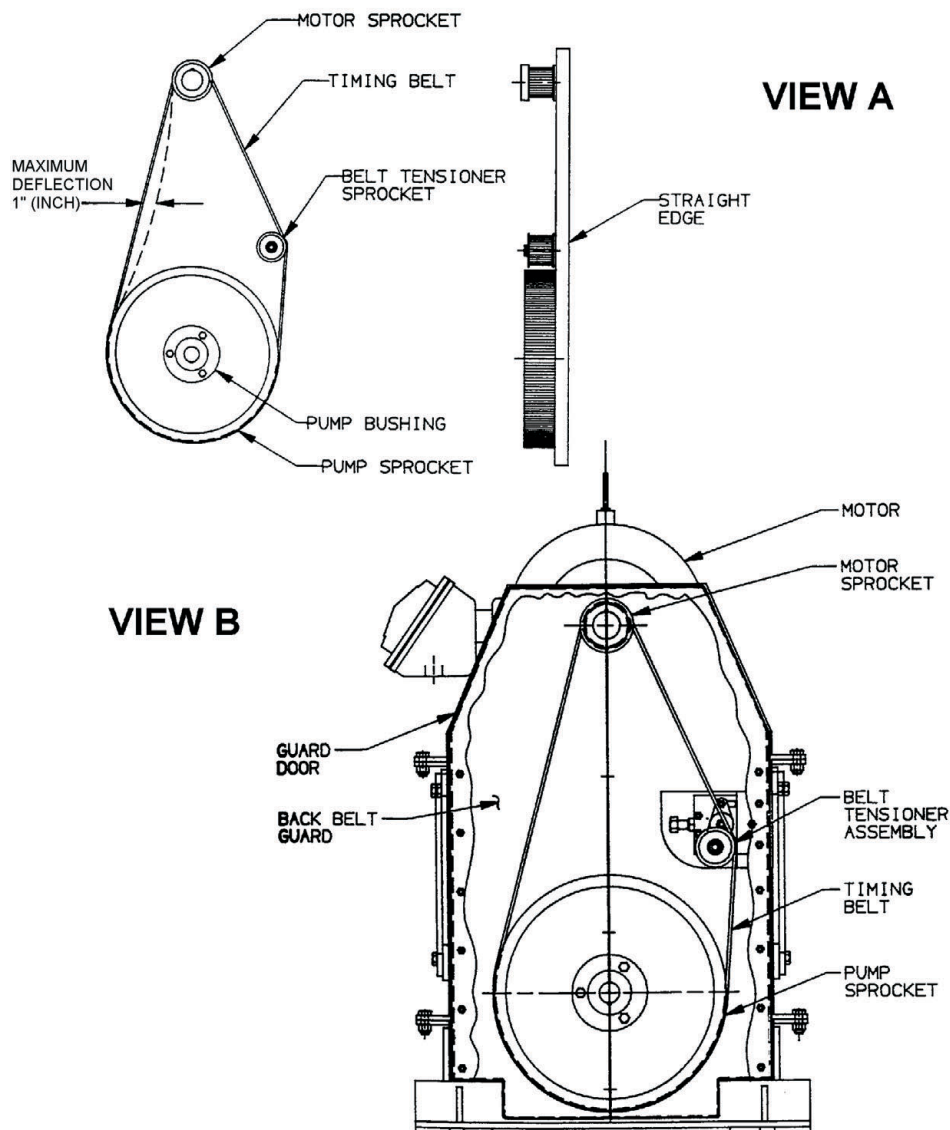

Figure 2-25.—Blackmer belt driven pump: A. Belt alignment; B. Alignment components.
Follow these steps in determining proper belt tension (refer to fig. 2-25) as needed:
6. Verify timing belt deflection does not exceed 1", need to use a 2 pound scale to determine proper deflection on the belt, (see fig. 2-25, View A).
7. Place straight edge across face of pump and motor sprocket (see fig. 2-25 View A).